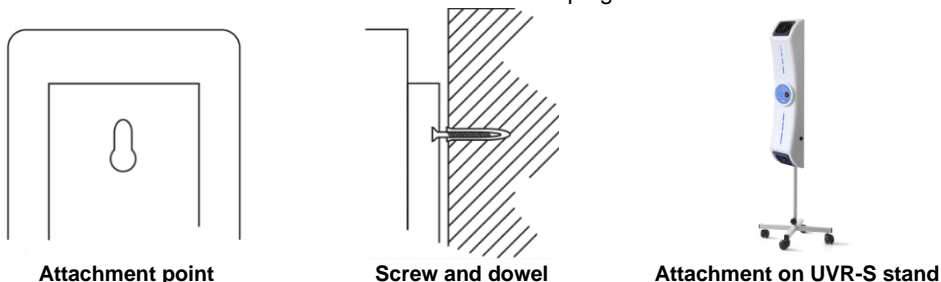

Figure 3. Unit attachment methods
- Fix the unit on the wall with the screw and dowel, or on a UVR-S movable support stand (figure 3).